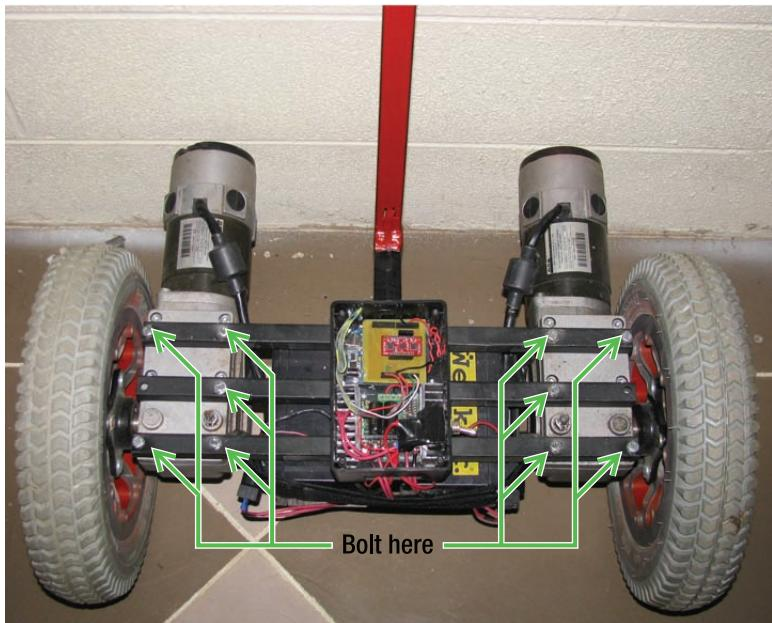
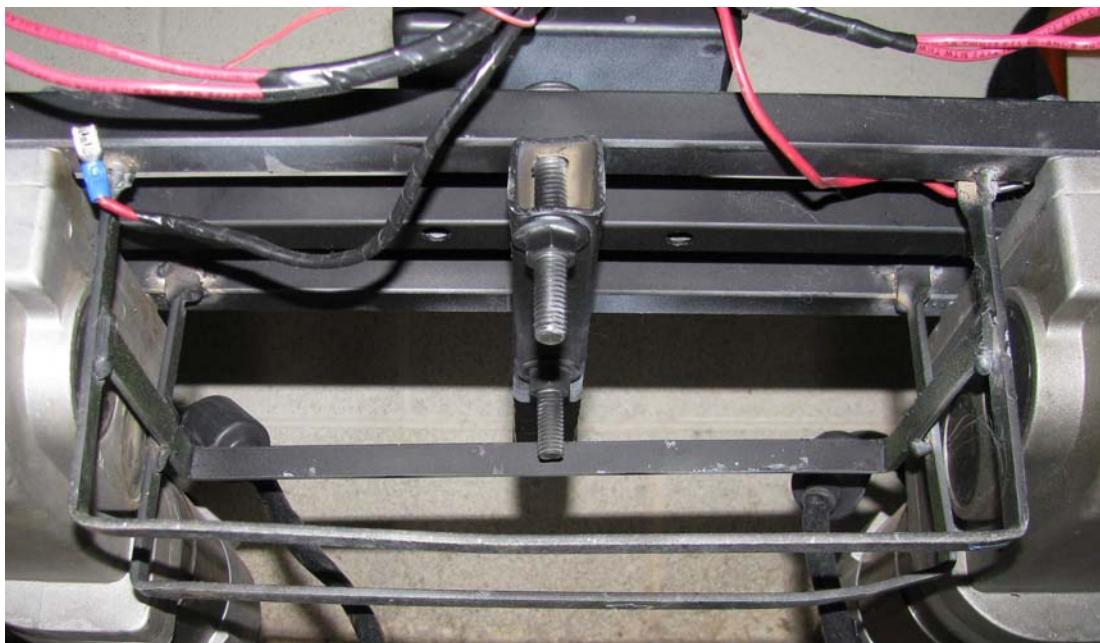

Figure 11-20. The base frame showing the location of needed bolts into the motor gear-boxes
Figure 11-21. The underside of the base frame showing the battery cage
The base consists of (three) 18-inch pieces of 3/4-inch steel square tubing, each bolted to the motors and the upper frame piece (see Figure 11-20). To keep the weight centered between the wheels, the batteries are housed under the frame base using a small cage formed from 1/2-inch steel flat bar (see Figure 11.21). Though it could be avoided, I chose to use my wire-feed welder to strengthen a few spots and keep from adding extra support braces and bolts.
5. Bolt the three frame base pieces to the motor gearbox assemblies, drilling holes where necessary to fit your motors (see Figure 11.20).
8. Make a small cage to hold the batteries beneath the frame base. You either need to bolt or weld this cage together and to the frame base (see Figure 11.21).